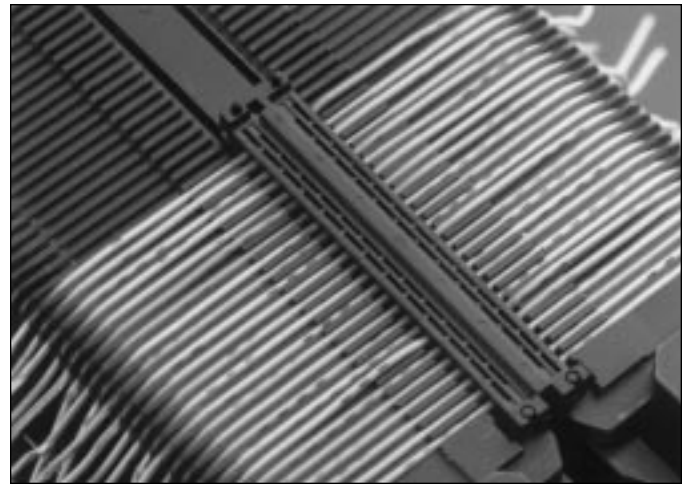

Figure 9. 2nd cover on top of wires
5. Pick up second cover and rub the paper liner to ensure transfer of adhesive to the cover. Remove the paper liner from the back of the second cover and place the cover (adhesive side down) over the wires and first cover, aligning it with the first cover's guide pins. Keep the notched end toward the operator. Press it down on the first cover's guide posts (Fig. 9).